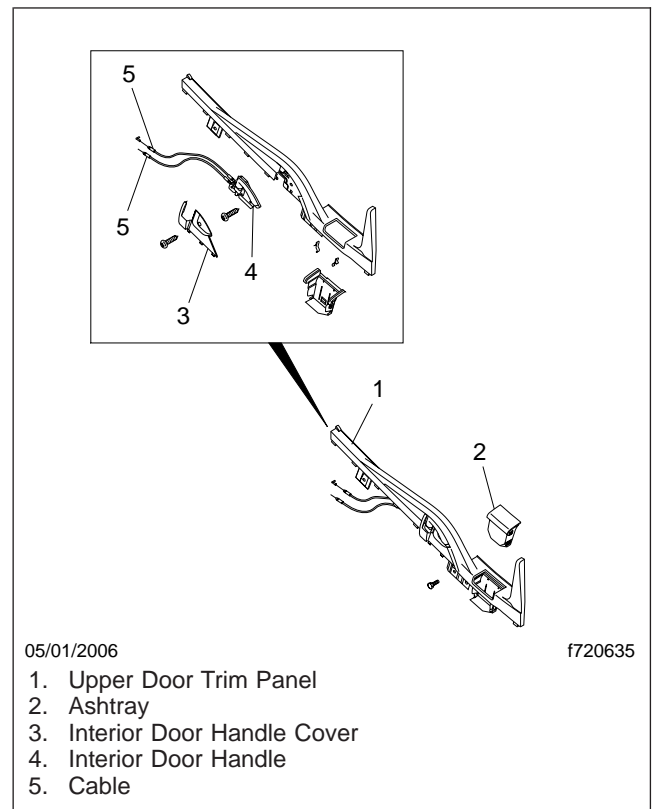

Fig. 2, Upper Door Trim
3. Remove the ashtray from its slot in the upper door trim panel. See **Fig. 2**.